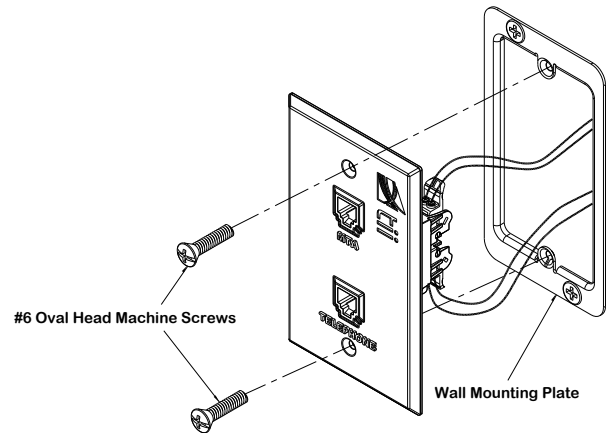

Figure 5
3. Dress the wires properly inside the wall mounting plate and secure the 761-4 to the wall mounting plate using the supplied #6 oval head screw's (See Figure 5).